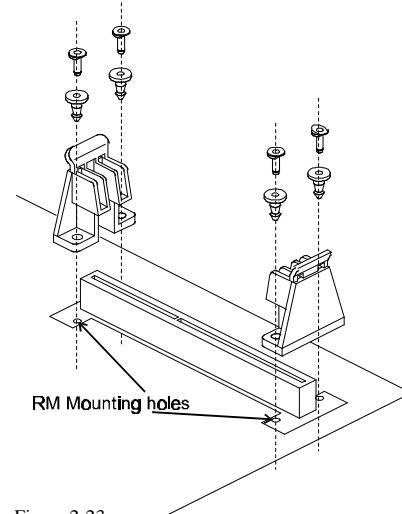

Figure 2-23
(Refer to Figure 2-23)
2. Insert two Retention Mechanism (RM) face to face on opposite side of the Slot 1.(Refer to Figure 2-23)
3. Insert four Post Pin through the RM to fix it to the mainboard. (Refer to Figure 2-23)
4. Insert four Lock Pin through the Post Pin to lock RM to the mainboard.(Refer to Figure 2-23)